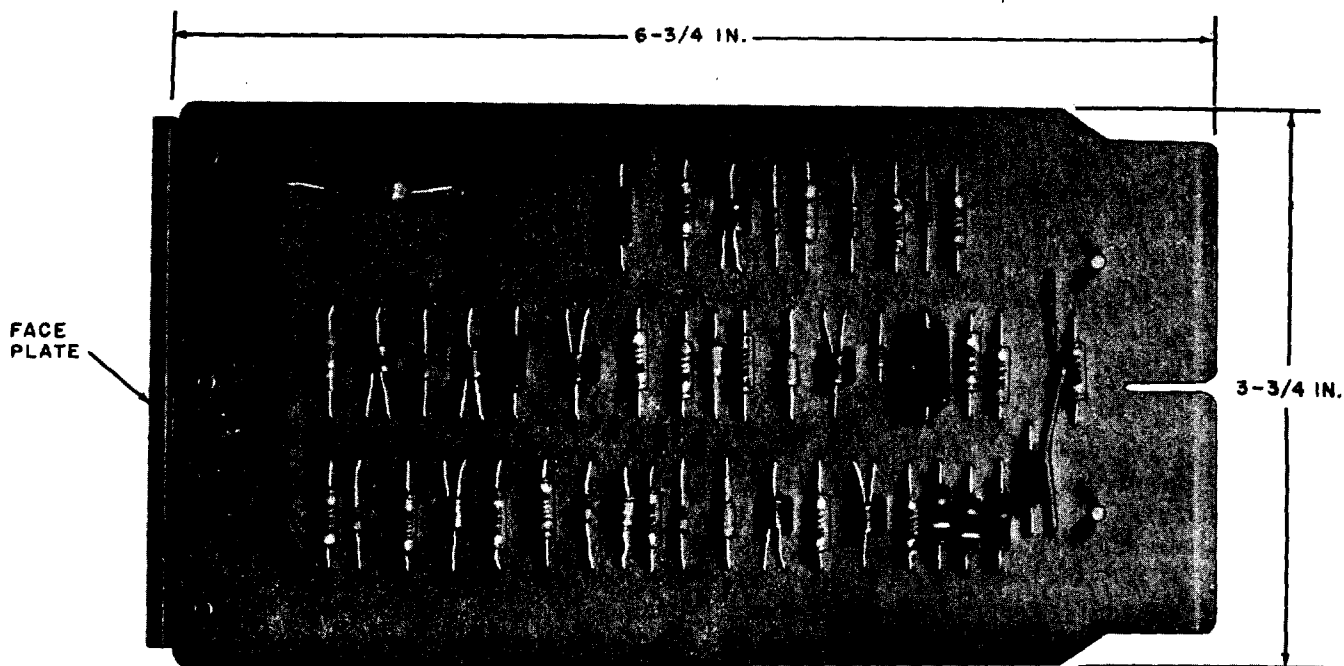

Fig. 2—Data Set 110C
2.01 The Data Set 110C is a printed circuit board which is similar to the printed circuit boards used in ESS office equipment. The data set is shown in Fig. 2.